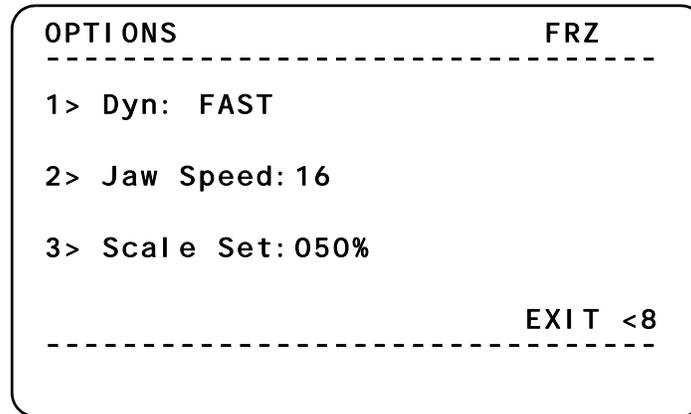

Figure 16 OPTIONS menu
Use the OPTIONS menu (Figure 16) to set slave arm speed and alternate scaling, and set the jaw speed.
1. Press the 2> Jaw Speed key to increase the speed in increments of 4. After 32, the jaw speed value defaults to 04 (Figure 16 on page 42).